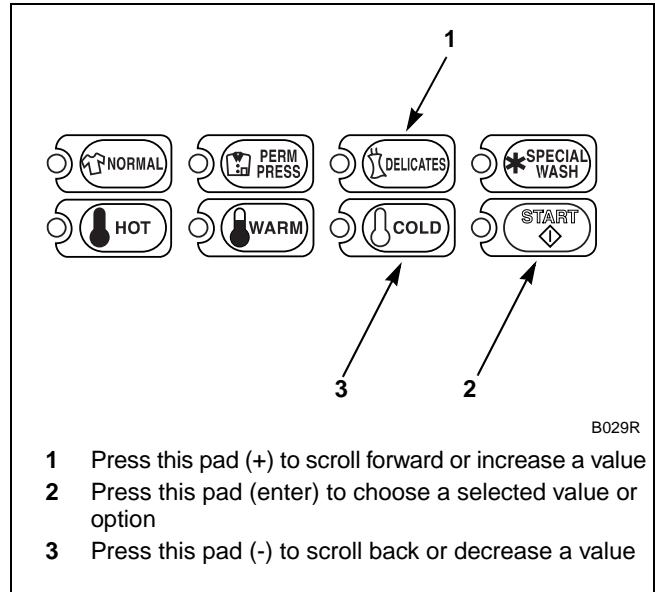

Figure 197
5. Press the DELICATES (+) or the COLD (-) keypad to increase or decrease the current output value displayed in the VFD to the desired output value. Refer to *Figure 197*.